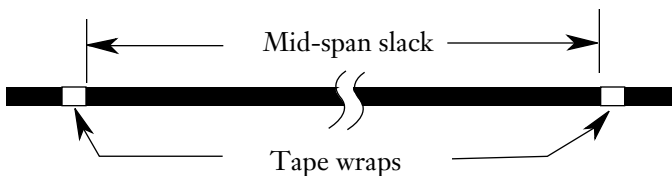

Figure 23
7.3 Determine the amount of slack needed. Place a wrap of tape at each end of the cable sheath that is to be removed (Figure 23).